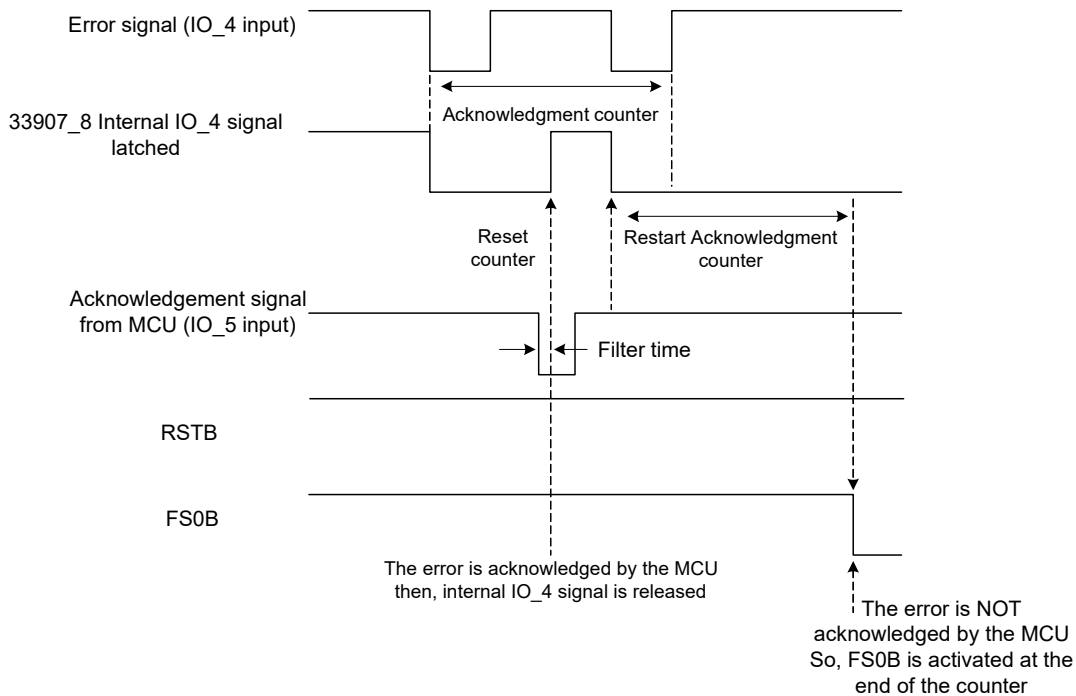

Figure 11. External error signal handling
Analog input (load dump proof) sent to the MCU through the MUX_OUT pin. Wake-up input on the rising or falling edge or based on the previous state. Digital input (logic level) sent to the MCU through the SPI. **Safety purpose:** Digital input (logic level) to perform an IC error monitoring (both IO_0 AND IO_1 are used if configured as safety inputs, see Figure 11).
- IO_4:5 are selectable as follows: Digital input (logic level) sent to the MCU through the SPI. Wake-up input (load dump proof) on rising or falling edge or based on previous state. Output gate driver (from V_{PRE}) for low-side logic level MOSFET. **Safety purpose:** Digital input (logic level) to perform an IC error monitoring (both IO_4 AND IO_5 are used if configured as safety inputs, see Figure 11).